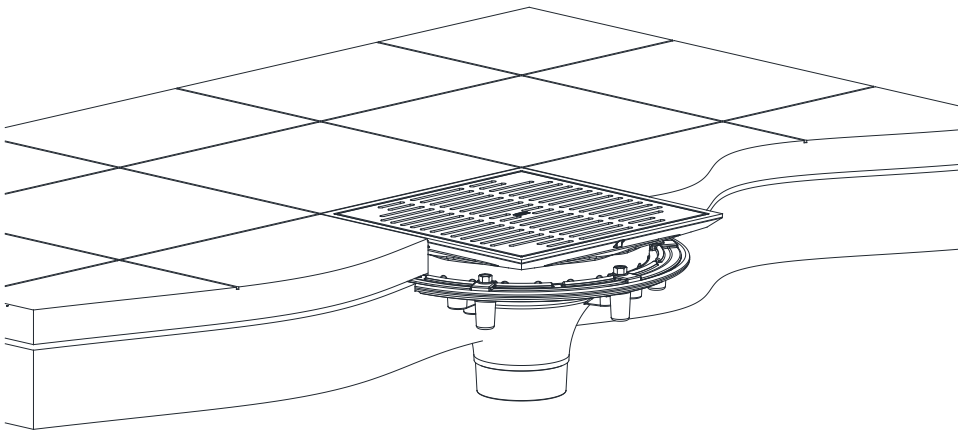

Fig 4
Step 6 - Complete construction of the promenade deck surface as required so that finished roof surface is flush with top of frame. (Fig 4)